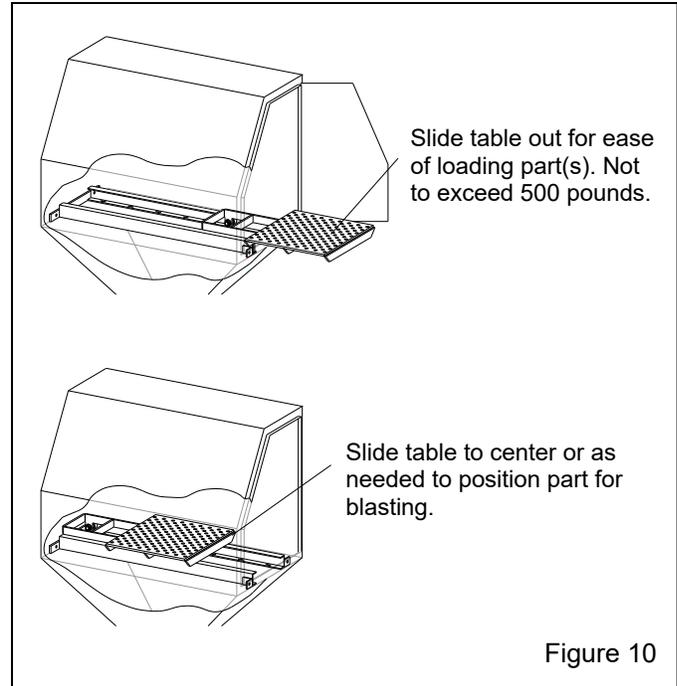

Figure 10
3.5.1 Components of track and table assembly are shown in Figure 10. The assembly consists of: